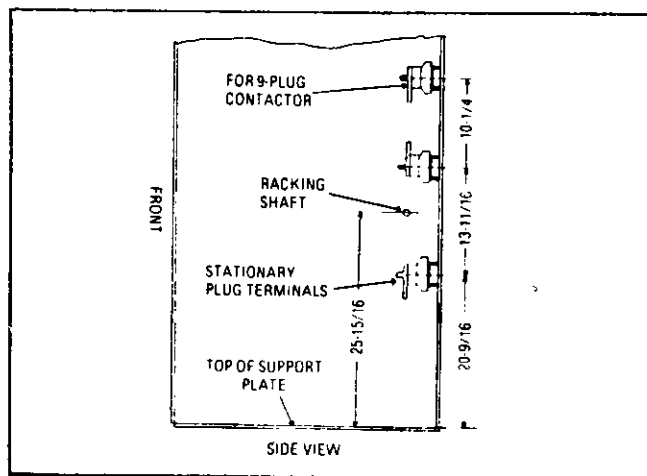

Fig. 15 - Alignment of stationary plug terminals on rear compartment wall should be checked before inserting carriage.
5. Rotate the side shaft of the cubicle to make certain that the shutters move freely. Check alignment of the stationary power plugs on the rear compartment wall according to the dimensions shown in Fig. 15. (Illustration shows a nine plug carriage.) The dimensions to the centers of the plug terminals are measured from the top of the plate which supports the carriage wheels. (See page 13 for adjustment.) Leave the side shaft in a position with the flat side horizontal and facing upward so it will mate with door handle coupling. (See page 12 for adjustment.)
Check dimensions as shown in Fig. 15. If the shaft height is off, adjust the channel support. If an individual set of plugs is out of position, adjust the individual insulator support independently.